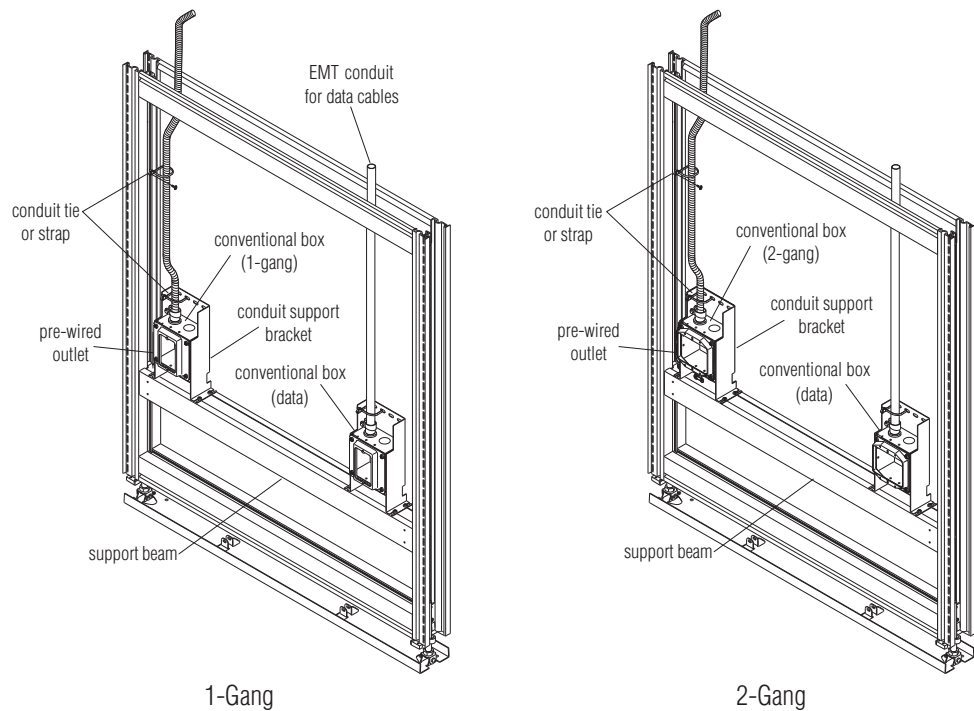

Figure 1
1. As specified by customer's order, and following all local and state codes at the job site, the electrician is to run the electrical and data wiring, install receptacle(s) and all appropriate trim rings and data faceplates (Figure 1).